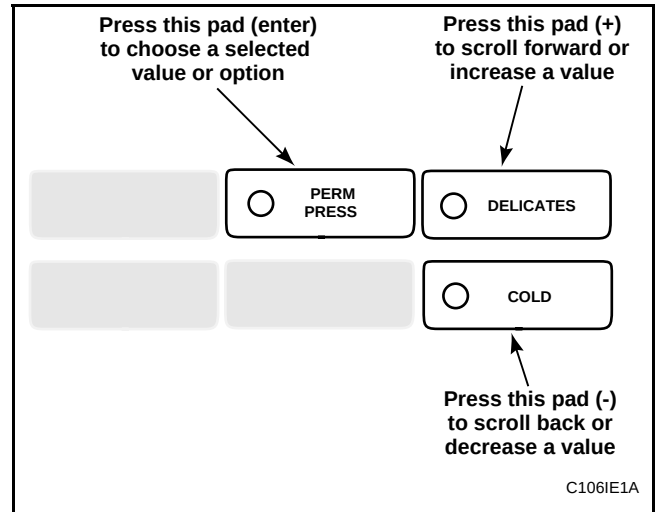

Figure 24
5. Press the DELICATES (+) or the COLD (-) keypad to increase or decrease the current hour to the desired hour. See **Figure 24**.